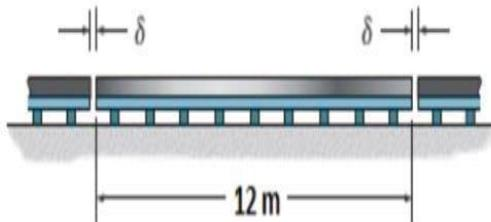

Fig 1c
c) A 12 meters long A36 Steel ($E=200$ GPa and $\alpha=12 \times 10^{-6}/^{\circ}\text{C}$) rails on a track are laid with a small gap between them to allow for thermal expansion as in fig 1c. Determine the required gap δ so that the rails just touch one another when temperature is increased from $T_1 = -29^{\circ}\text{C}$ to $T_2 = 32^{\circ}\text{C}$. What would be the axial force if the temperature were to further rise to 43°C ? The Cross-sectional area of each rail is 0.0033 m^2 . 07